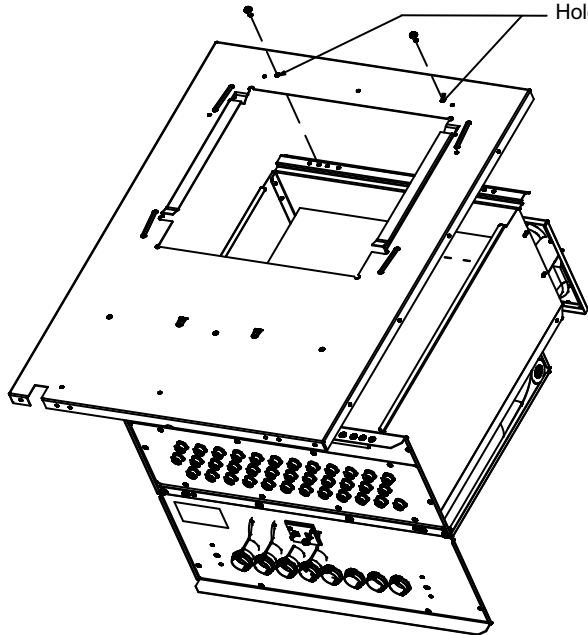

FIGURE 8
- 25 - Secure Heat exchanger to the blower deck using two #8 screws through blower deck first. See figure 8.